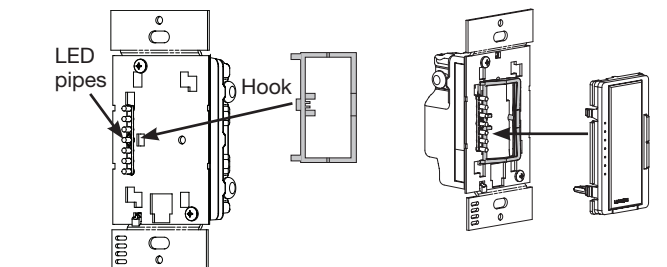

Figure 3
- b. Press firmly on the frame at the hook. When properly seated, the frame will snap into place. See Figure 3.
4. Install the new actuating switch assembly. Push the assembly straight onto the control, being careful not to dislodge the clear plastic frame underneath. Press firmly on each clip to lock into place. See Figure 3.